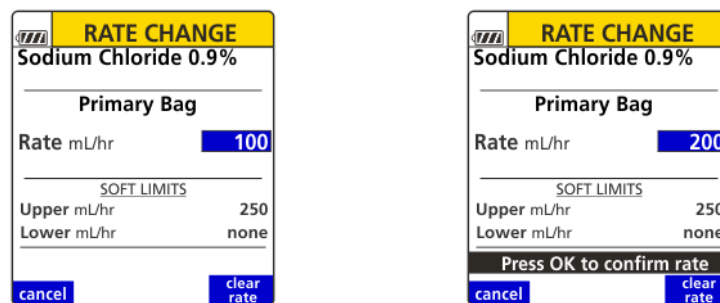

Figure 77. Rate Change Screen.
2. Observe the displayed mL/hr soft limits. See Figure 77.
3. Enter a new mL/hr flow rate. See Figure 77.
4. Press **OK** to confirm new flow rate. See Figure 77.